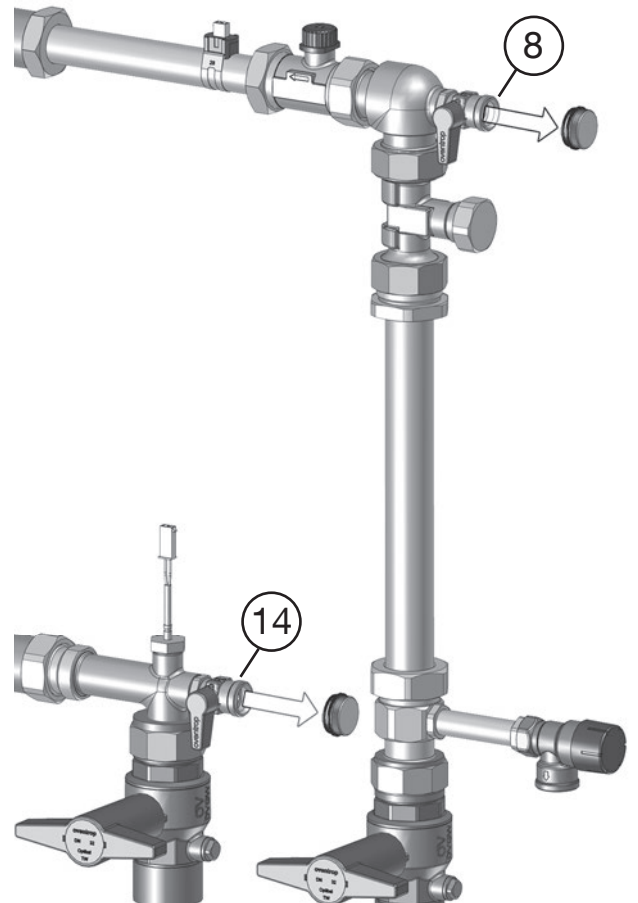
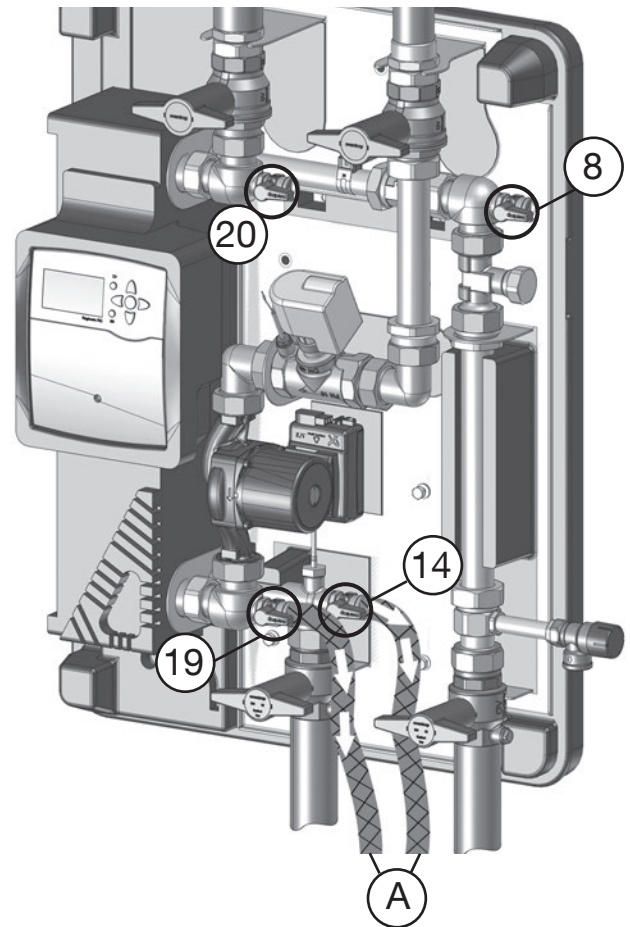

Fig. 5.2: Unscrew the caps from the fill and drain ball valves
Fig. 5.5: Drain the pipes and the heat exchanger
3. **Unscrew the caps from the fill and drain ball valves (8 and 14)** (Fig. 5.2).
3. Unscrew the caps from the **fill and drain ball valves** (see Fig. 5.2 on page 31, pos. 8, 14, 19, 20).
4. Equip each of the lower fill and drain ball valves (14 and 19) with a **drainage hose (A)**.
5. Open the fill and drain ball valves (8, 14, 19 and 20) to drain the pipes and the heat exchanger (Fig. 5.5).